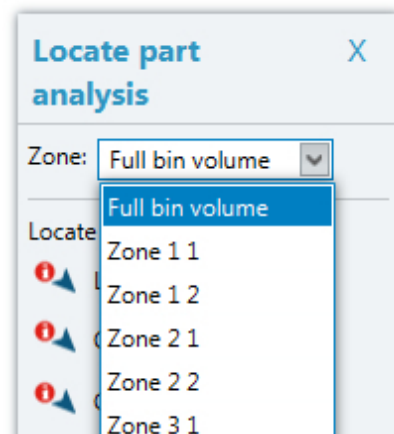

Figure 87: Zone selection
4. Select the desired zone in the **Zone** drop-down in top of the **Locate part analysis** window, see figure 87, page 94.